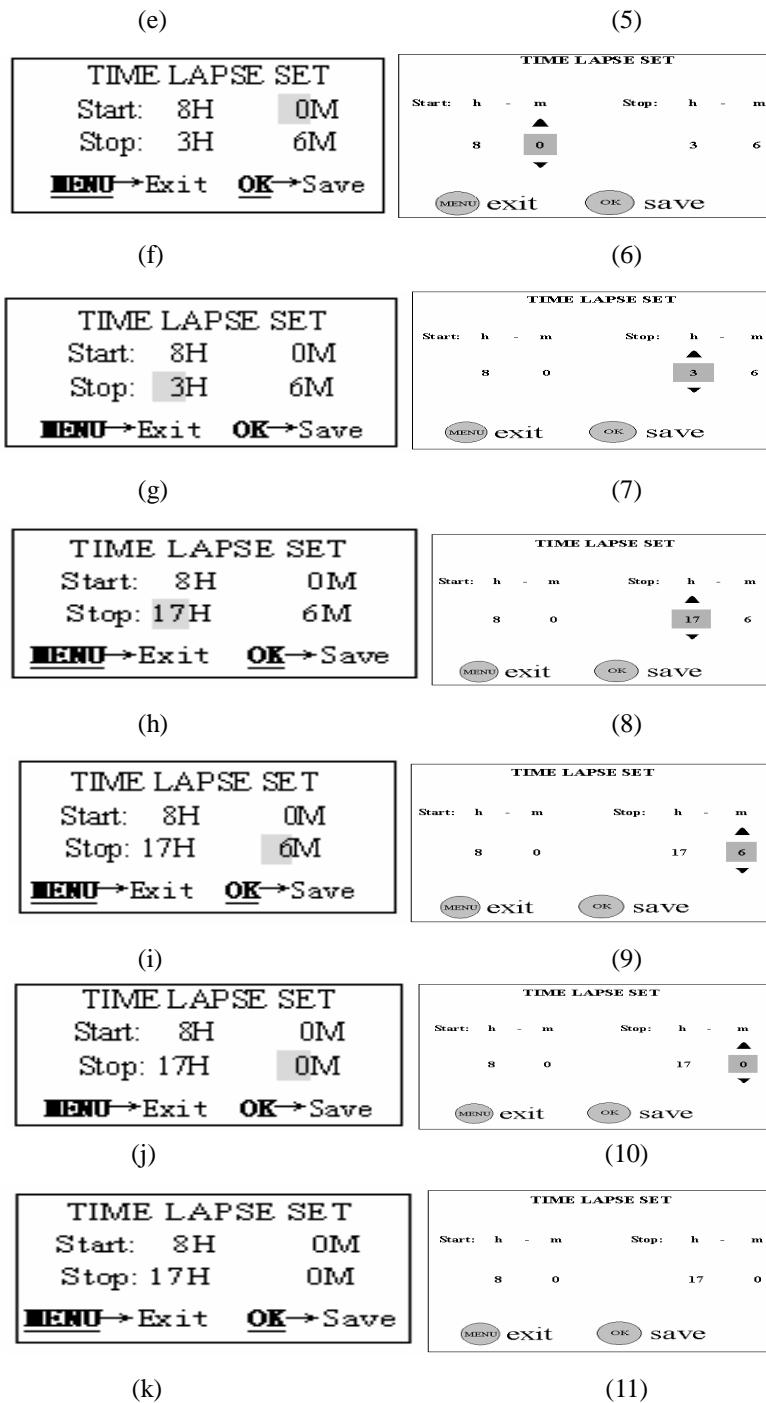

Figure 15: Setting timer
- a) In MENU state push the UP or DOWN key till the parameter “Timer Switch” appears as shown in the Fig. 15(a) and 15(1).
- b) Push the RIGHT key at first. Then the value of this parameter will be changed to “On”, shown in the Fig. 15(b) and 15(2).
- c) Push the OK key to enter into setting start time. Then the hour of start time can be set as shown in the Fig. 15(c) and 14(3).
- d) Push the UP or DOWN key till the hour of start time changes to 8 as shown in the Fig. 15(d) and 15(4).
- e) Press the RIGHT key to set minute of start time as shown in the Fig. 15(e)
- f) Push the UP or DOWN key till the minute of start time changes to 0 as shown in the Fig. 15(f) and 15(6).
- g) Press the RIGHT key to set hour of stop time as shown in the Fig. 15(g) and 15(7).
- h) Push the UP or DOWN key till the hour of stop time changes to 17 as shown in the Fig. 15(h) and 15(8).
- i) Press the RIGHT key to set minute of stop time as shown in the Fig. 15(i) and 15(9).
- j) Push the UP or DOWN key till the minute of stop time changes to 0 as shown in the Fig. 15(j) and 15(10).
- k) Press OK key for saving timer setting or MENU key for canceling operation and exiting. After pressing OK key the selected value will be no more highlighted, shown in the Fig. 15(k) and 15(11). Next press MENU key to return to preview state.